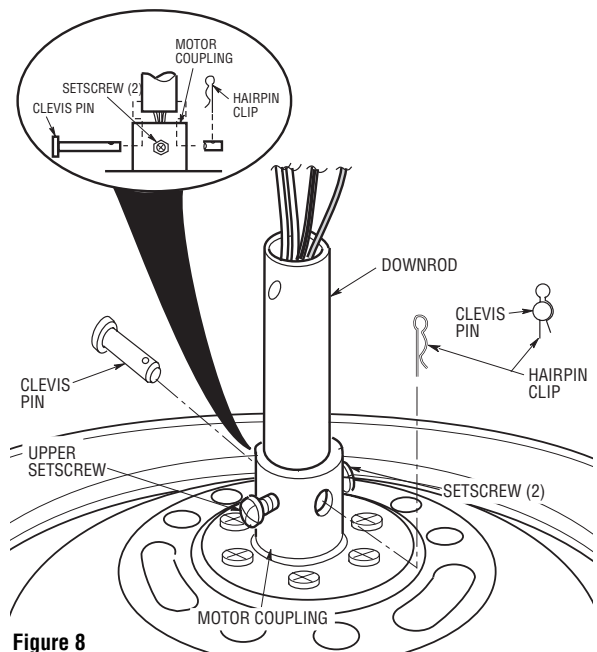

Figure 8
- 13. Loosed the two setscrews in the motor coupling. Slide the downrod down the wires and seat the downrod in the motor coupling (Figure 8).
- 14. Align the clevis pin holes in the downrod with the holes in the motor coupling. Install the clevis pin and secure with the hairpin clip (Figure 8). The clevis pin must go through the holes in the motor coupling and the holes in the downrod. Be sure to push the straight leg of the hairpin clip through the hole near the end of the clevis pin until the curved portion of the hairpin clip snaps around the clevis pin. The hairpin clip must be properly installed to prevent the clevis pin from working loose. Pull on the downrod to make sure the clevis pin is properly installed.
- 15. While pulling up on the downrod, securely tighten the two setscrews in the motor coupling (Figure 8).